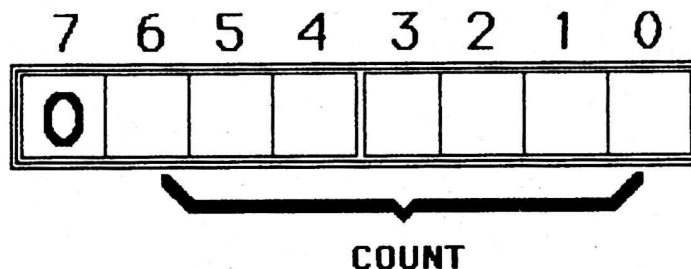

Figure 2-3. Continuation Code Format
2.2.1.2 Continuation Code. Since the 4-bit "count" element of a transition code is severely limited in length, continuation codes are necessary to allow longer portions of scanlines to be specified. The continuation code specifies a number of pixels to be drawn on the screen in whatever color is currently active (i.e., whatever color was last specified in a transition code). A continuation code is denoted by having a 0 in the location of the eighth bit of the word. See Figure 2-3 for the format of a continuation code. Note that the same restriction applies to this "count" as to the transition code "count" (see NOTE on page 2-7).